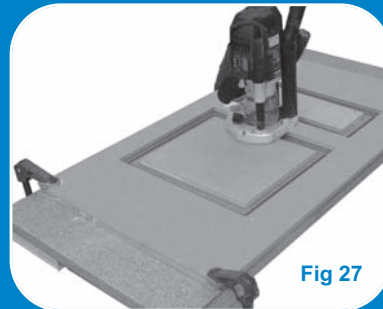

Fig 27
2. Ensuring the jig handing corresponds with the desired sink handing centralise the 'FACE' jig and clamp in place using four clamps, one at each corner (fig 27).